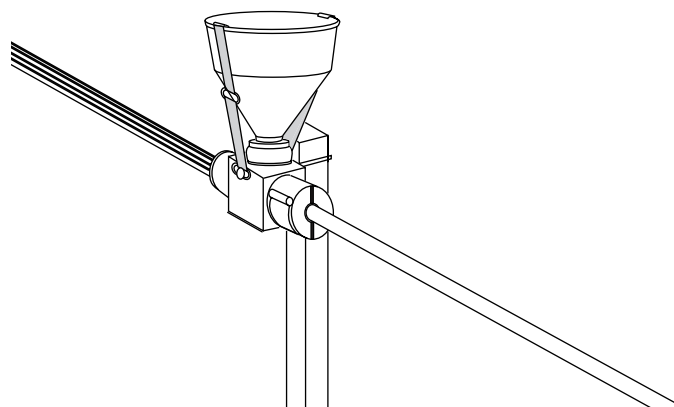
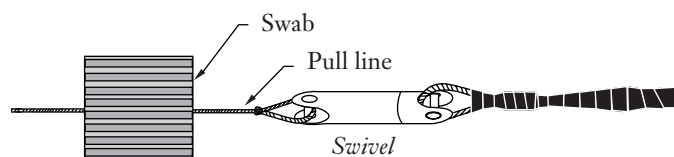

Figure 7 Pulling lubricant applicator
Figure 8 Pulling lubricant swab
**4.18** Lubricant should be applied according to the manufacturer's recommendations. Some lubricant vendors recommend an applicator to coat the cable as it enters the innerduct (Figure 7), others suggest distributing lubricant throughout the innerduct by pulling a swab through the innerduct as part of the pull-line placement (Figure 8). Pumps or gravity feed devices can also be used to inject lubricant into the innerduct.
**4.23** The use of a swivel between the pull-line and pulling grip is required to prevent the pull-line from imparting a twist to the cable (see Figure 8). A swivel that contains ball-bearings such as the Corning Cable Systems GRP-005 pulling swivel, is recommended to prevent binding at high tensions.